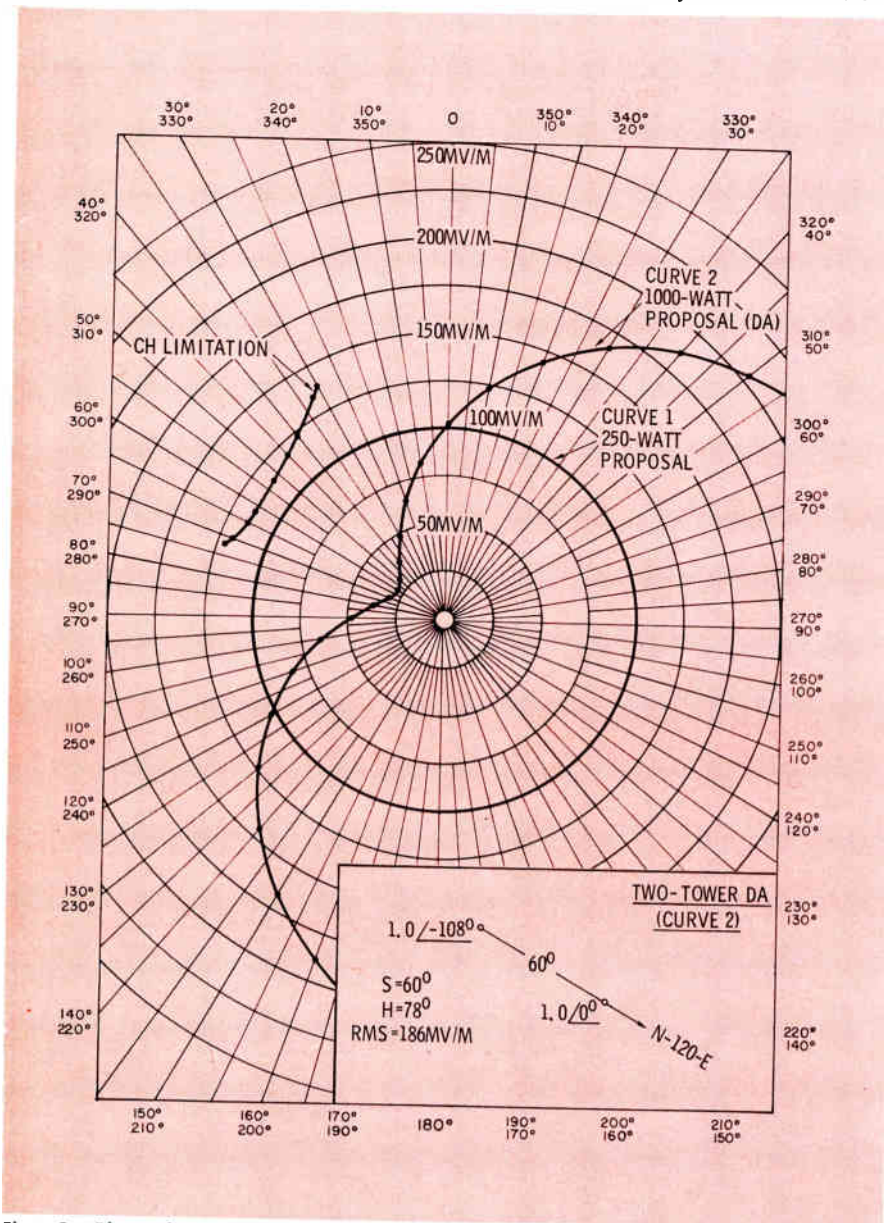

Fig. 8. Plot of computed results shows limitation on station CH radiation.
The CH study is complete from a results standpoint when columns 5 and 6 of the work-tabulation sheet are completed. The display of the inverse-field values vs azimuth forms points on a limiting contour arc (Fig. 8), which is the real final result desired. It then only remains to utilize the results of the study to engineer an appropriate facility design which will radiate inverse fields below the limiting values, at and below the pertinent vertical angles of departure.
2. Minor relocation in transmitter site, coupled with measures outlined under (1) above. This is primarily a means to place signal-intensity contours in concert with minimum requirements of the Commission.
3. Use of a directional antenna system. This is a convenient, but expensive, means for accomplishing the most in radiation-pattern control. Curve 2 of Fig. 8 shows an example of the use of a directional antenna to make possible the use of higher power during the critical hours (if ground-wave-interference limitations permit).